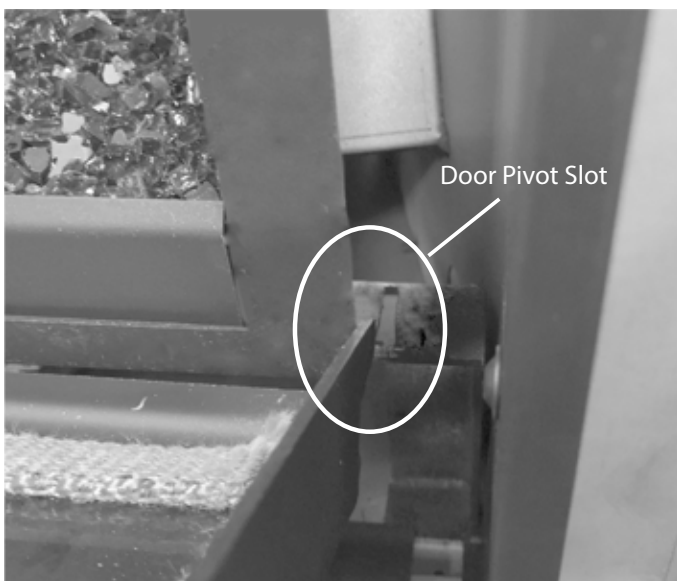

Figure 83: Door Hinge location.
1. Place the hooks on the sides of the door into the Pivot slots located on the floor of the fireplace on either side of the firebox (Figure 83).